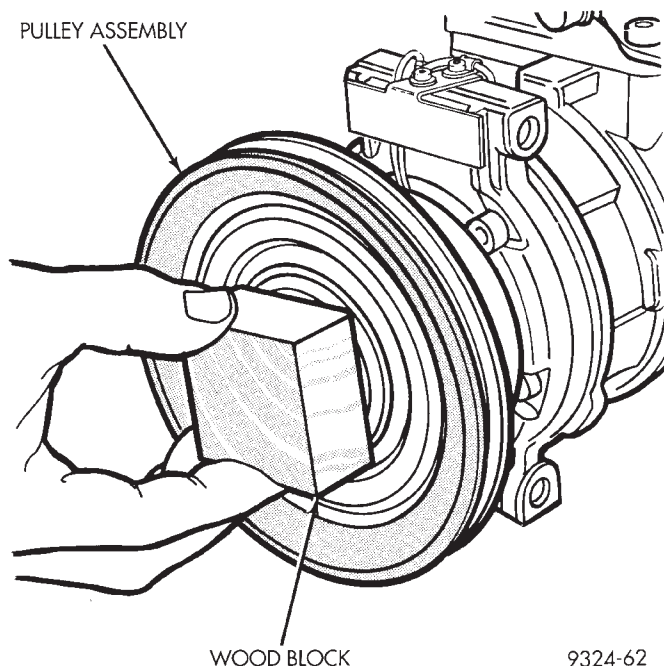

Fig. 34 Installing Pulley Assembly
(2) Install field coil retaining snap ring with Snap Ring Pliers (C- 4574). Press snap ring to make sure it is properly seated in the groove.
(3) Install pulley assembly to compressor. If necessary, tap gently with a block of wood on the friction surface (Fig. 34).
(4) Install pulley assembly retaining snap ring (bevel side outward) with Snap Ring Pliers (C-4574). Press the snap ring to make sure it is properly seated in the groove.
(5) If the original front plate assembly and pulley assembly are to be reused, the old shim(s) can be used. If not, place a trial stack of shims, 2.54 mm (0.10 in.) thick, on the shaft against the shoulder.
(6) Install front plate assembly onto shaft.
(7) If installing a new front plate and/or pulley assembly, the gap between front plate and pulley face must be checked. Use the following procedure: